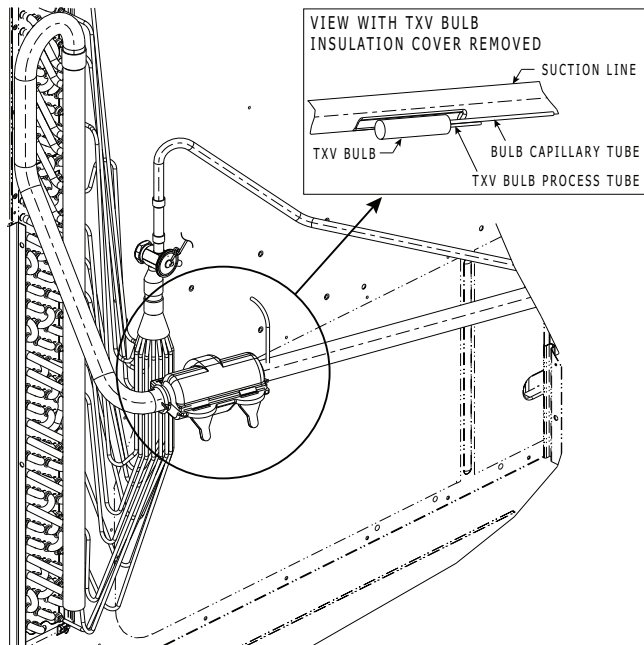

Fig. 27 — TXV Valve and Sensing Bulb Location
10. Attach TXV bulb in the same location where the original (in the sensing bulb indent) was when it was removed, using the supplied bulb clamps. See Fig. 27.